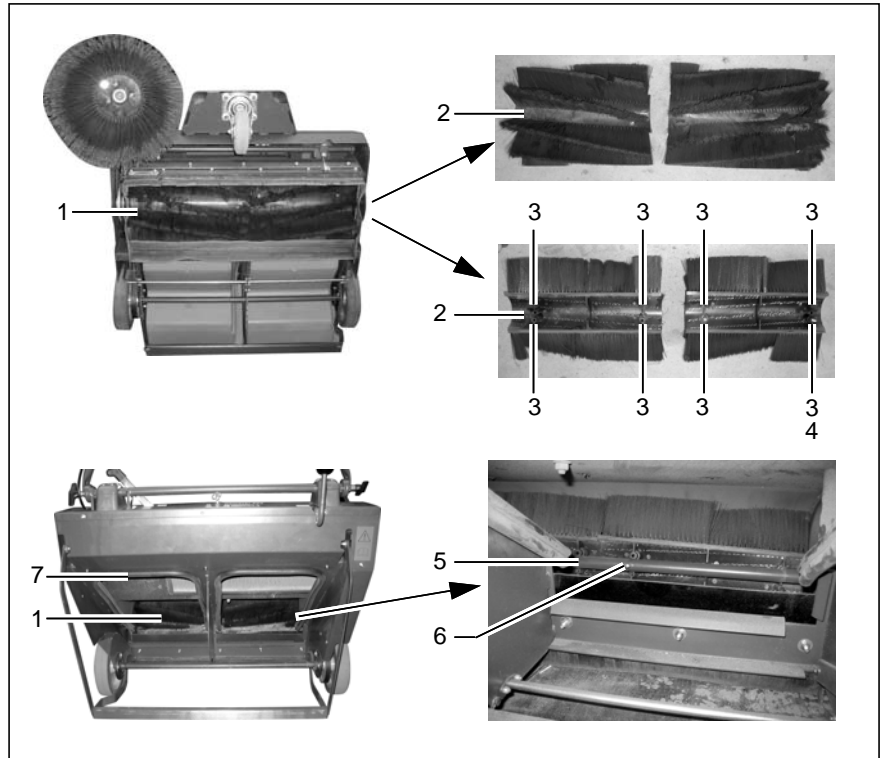

Fig. 20
The brush space with the rotary brush (Fig. 20/1) and seals for the dirt hoppers (Fig. 20/7) must be checked daily for signs of dirt and cleaned as necessary.
The rotary brush (Fig. 20/1) must be checked weekly and changed in the case of wear. A new rotary brush has a diameter of 9.8 in. When a rotary brush has a diameter of only 7.9 in, it must be replaced with a new one.
The rotary brush (Fig. 20/1) is comprised of four individual rotary brush segments (Fig. 20/2) which are fixed to the rotary brush shaft (Fig. 20/5) by the screws (Fig. 20/4). Pay attention that the bristle pattern on the rotary brush (Fig. 20/1) is always arranged in a V-shape in the direction of driving so that the dirt is guided to the center of the rotary brush.
2. First of all, disassemble the two adjacent rotary brush segments (Fig. 20/2): Loosen the screws (Fig. 20/4) and remove the rotary brush segments (Fig. 20/2).
3. Then turn the rotary brush shaft (Fig. 20/5) 180° by hand and disassemble the two remaining rotary brush segments (Fig. 20/2).
4. Assemble four new rotary brush segments (Fig. 20/2) in the reverse sequence. When doing so, pay attention that the rotary brush segments (Fig. 20/2) are installed on the guide pins (Fig. 20/6) of the rotary brush shaft (Fig. 20/5) and screw to facing rotary brush segments (Fig. 20/2) firmly to each other.
7. After changing the rotary brush (Fig. 20/1), readjust the sweeping pattern as necessary.
In the case of brush wear, and after changing the rotary brush (Fig. 20/1), the sweeping pattern must be readjusted.